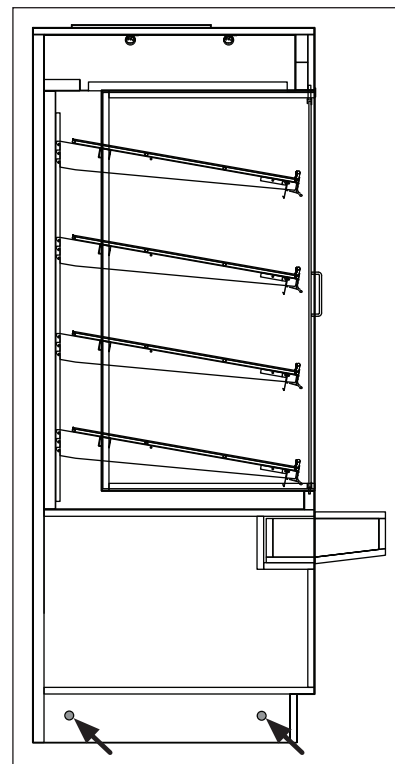

Fig. 4 Bolt locations (BWU-D-D)
4. Push the cases tightly together, then lightly bolt them together through the holes provided (Fig. 4 & 5). Tighten all the joining bolts until all margins are equal. Be careful not to over tighten.